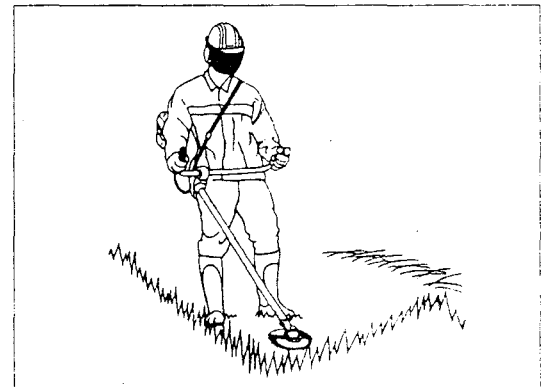

Fig. 38
- Before commencing work, check the condition of the cutter, protective devices and also the shoulder strap. Particular attention should be paid to the cutting blades which must be correctly sharpened (Fig. 38).